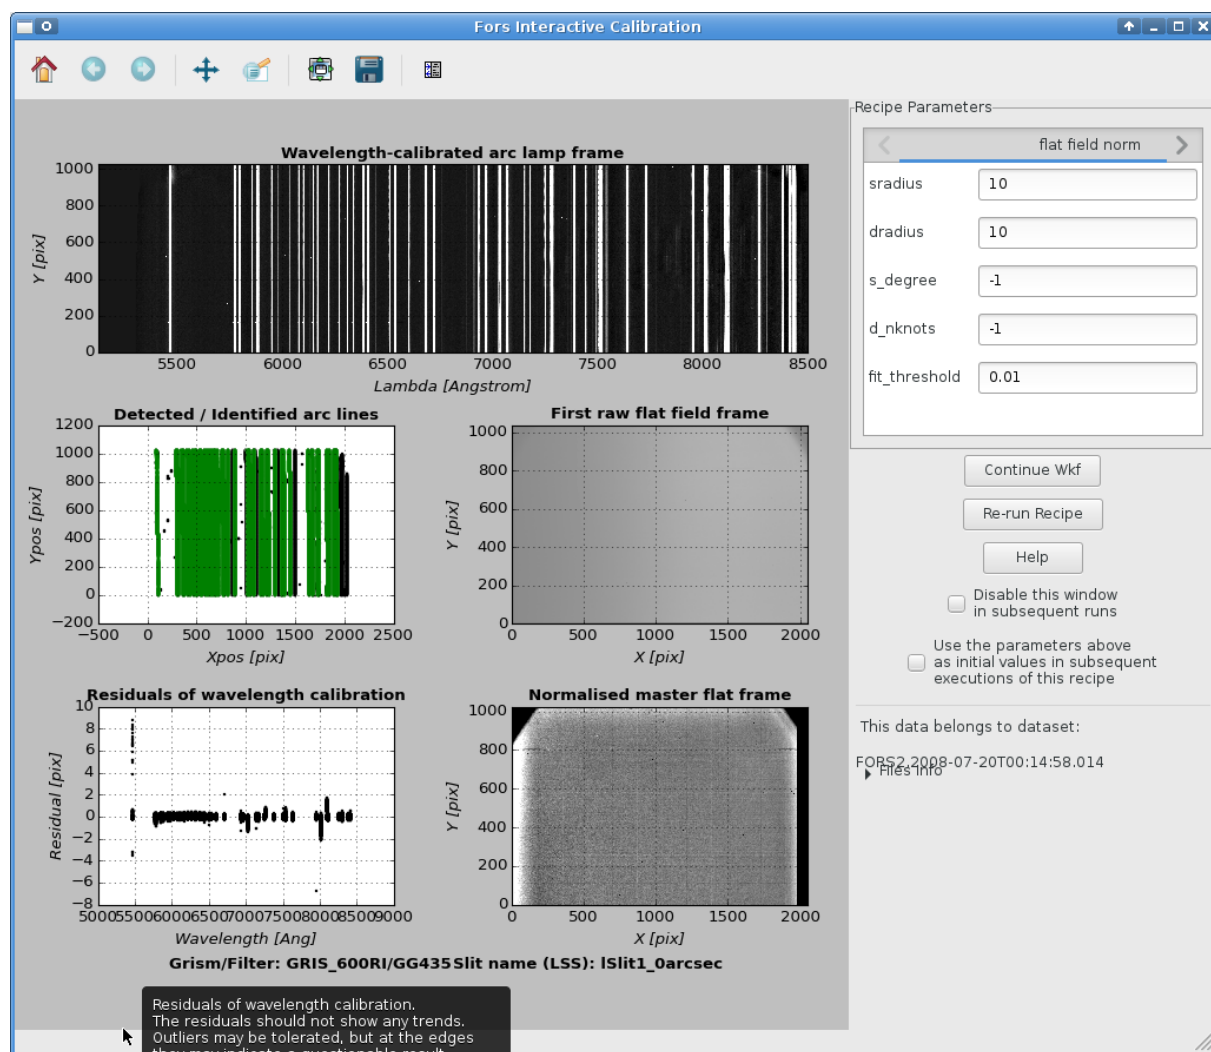

Figure 4.4: The interactive window of the `fors_calib` actor for the first demo DataSet. First the calibration data of the flux standard star are processed.
9. For each execution of the `ForsCalib` actor, an interactive window will appear which shows some plots to evaluate the quality of the slit tracing, the wavelength calibration and the master flat creation. Figure 4.4 shows the look of that window. The first and fifth data set will create an error message during that step. See p. 32 how to proceed.